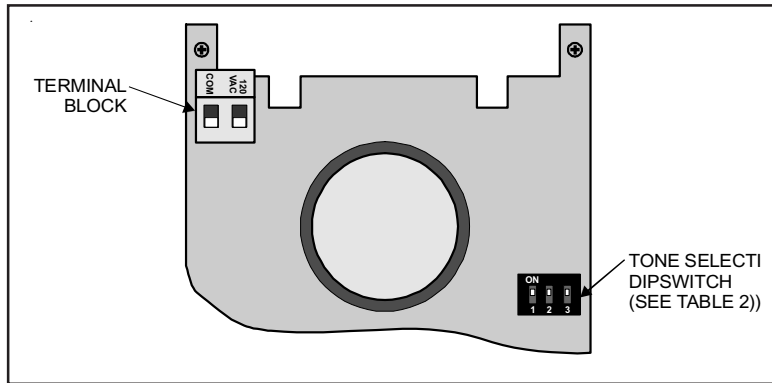

Figure 3. Cat. No. 102SIGMT PC Board (120V version shown)
- (1) To sound tone independently, connect to separate hot lead.
- (2) To sound tone with a particular light, connect tone module hot terminal to selected light terminal on Cat. 102TBS terminal block.
3. If using the multi-tone module, Cat. No. 102SIGMT, set the selected tone. See Table 2 and Figure 3.
*ON is in the "UP" position (see Figure 3).